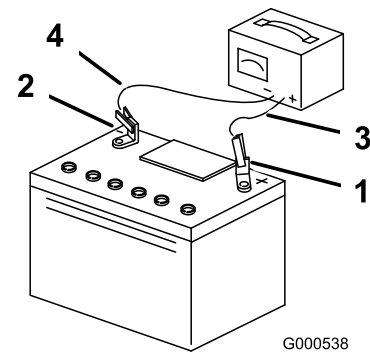

Figure 33
- When the battery is fully charged, unplug the charger from the electrical outlet, then disconnect the charger leads from the battery posts (Figure 33).